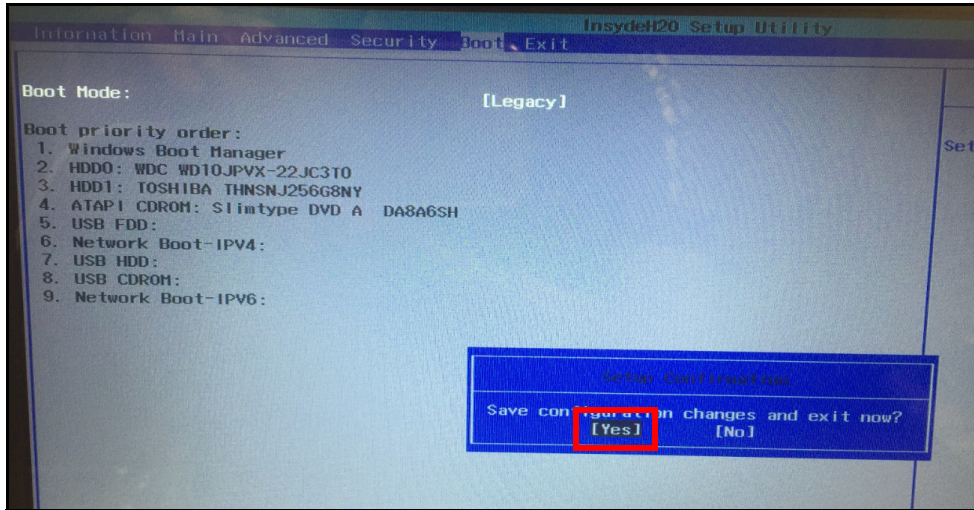

Figure 2-29. Save Configuration Changes and Exit
10. Press **F10** and confirm your selection to save the settings and exit the BIOS Menu (Figure 2-29). The system will restart automatically.